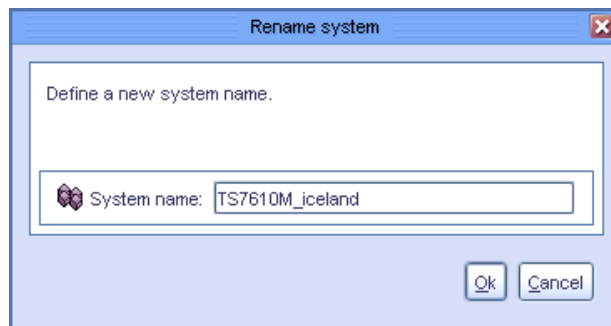

Figure 5-32 Rename system window
2. The Rename system window opens (Figure 5-32). Enter the new System name according to your naming convention for easy identification later. Click **Ok**.